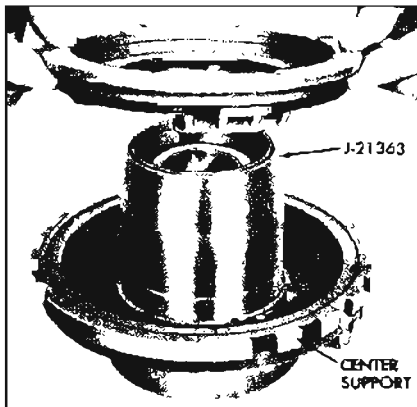

Figure 5-655
3. Install inner seal protector, tool J-21363, on the center support hub, install the piston. See Figure 5-655.